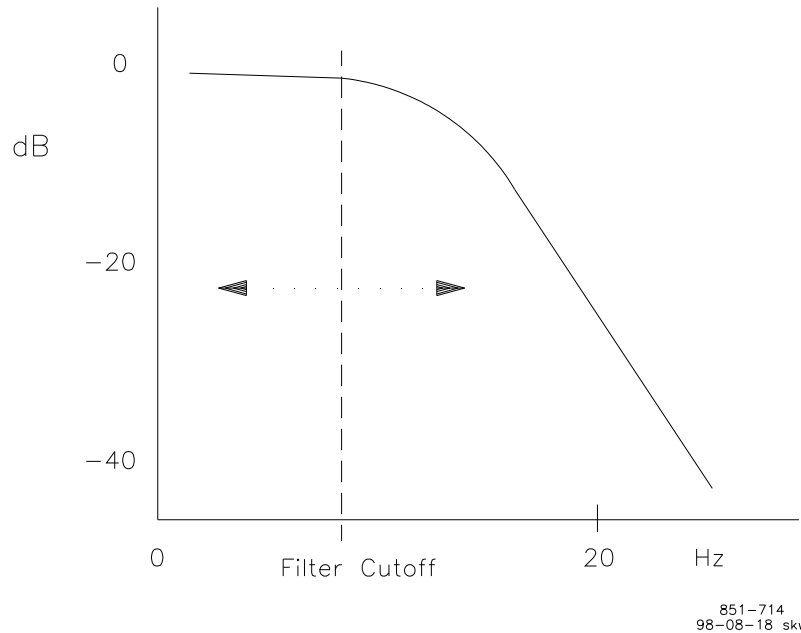

Figure 3-5. Speed Filter
8. Speed Filter adjusts the cutoff frequency of a low pass filter used on the speed sensing input (see Figure 3-5). The filter is used to attenuate engine firing frequencies. To calculate the desired filter cutoff point, use the following formula: